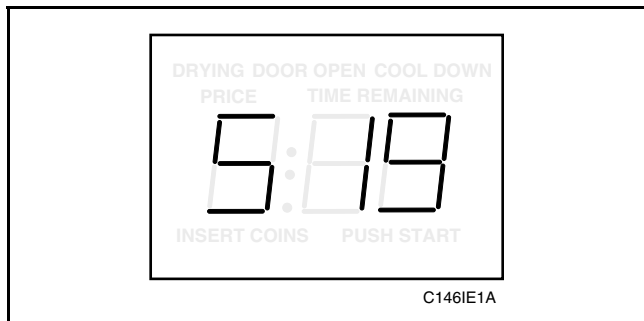

Figure 79
2. While pressing and holding the HIGH TEMP pad with one hand, press the MED TEMP pad with the other hand. Programmable option number 1, (Audio Signal “SIg”), will appear in the VFD, *Figure 79*.